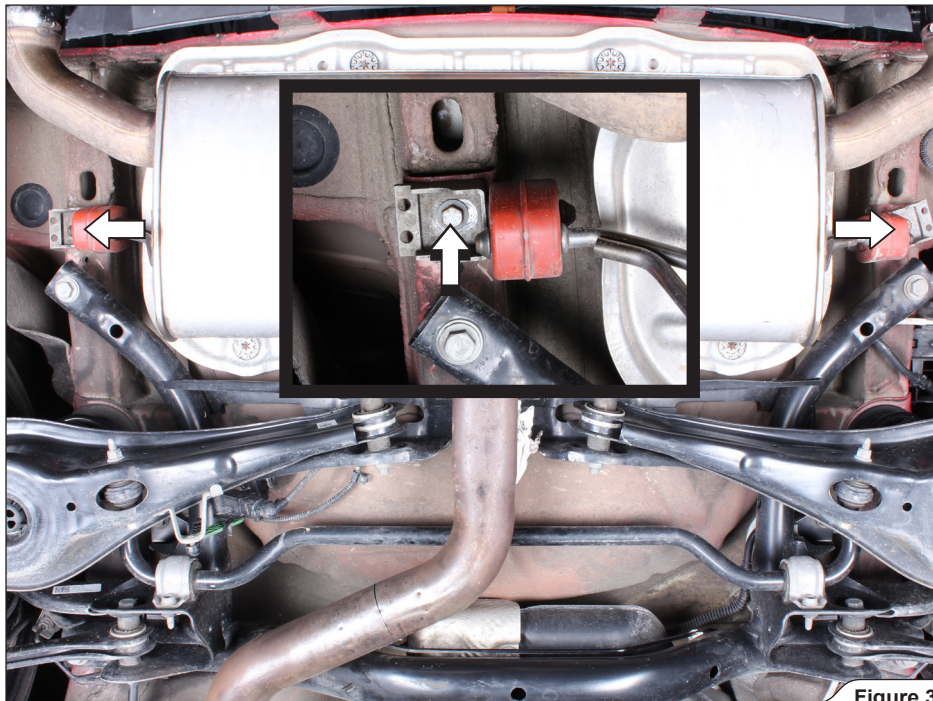

Figure 3
2. Unscrew the rubber bracket on both sides of the vehicle and carefully remove the muffler off the vehicle (**Figure 3**).